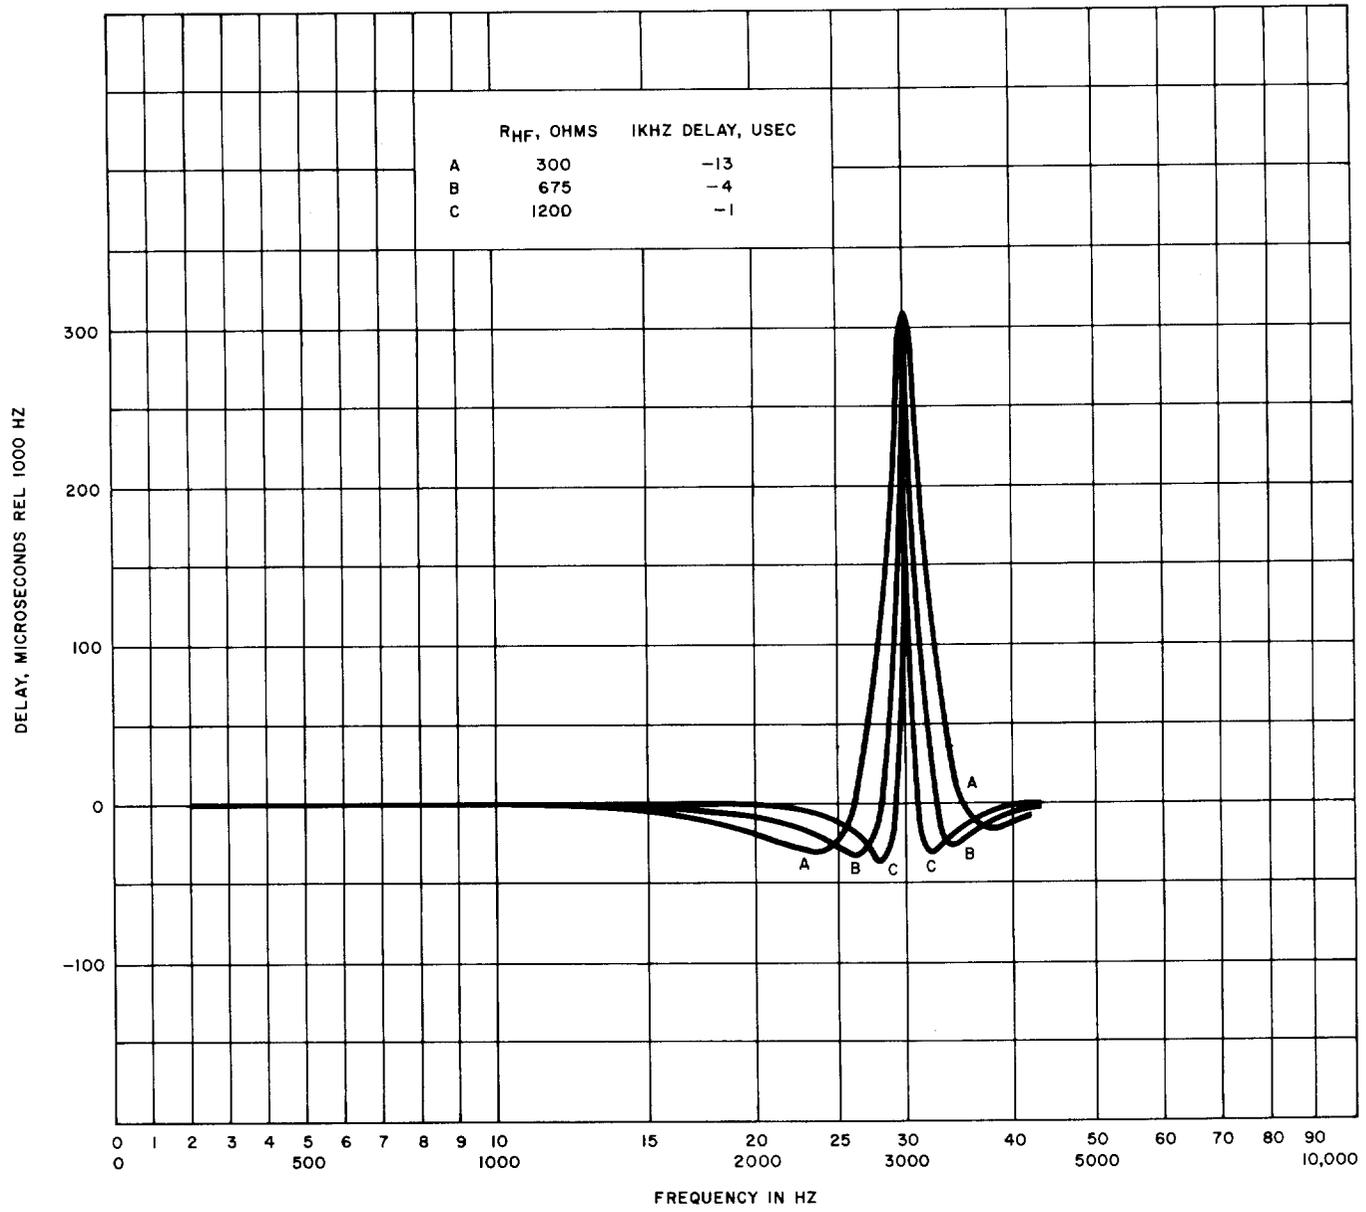

Fig. 9—4182C Network, High-Frequency Section, Delay-Frequency Characteristics Between 600-Ohm Impedances—At Various Settings of R_{HF}
4.07 While the shunt arm high-frequency components provide compensation for amplitude distortion, they also introduce delay distortion. Figure 9 illustrates typical delay-frequency characteristics obtained by varying R_{HF} .